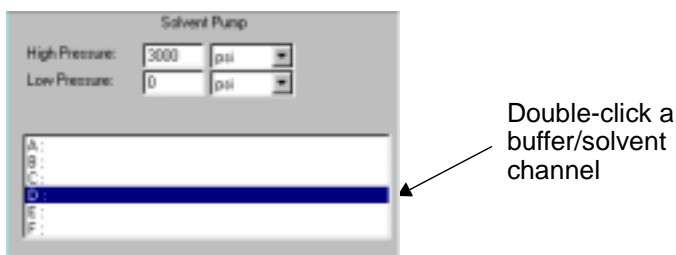

Figure 4-3 Buffer/Solvent Channels
2. Double-click a **buffer/solvent channel (A through F)** in the Solvent Pump section of the Configuration dialog box (Figure 4-3).